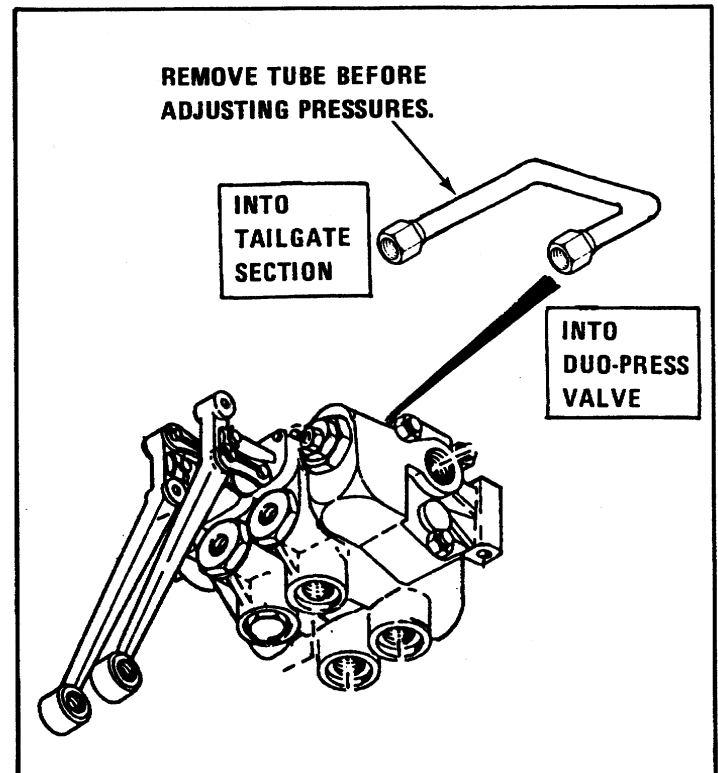

Figure 22C.
2. Remove hydraulic tube (part no. 54-7480) located between duo-press valve and the tailgate section. See Figure 22C.